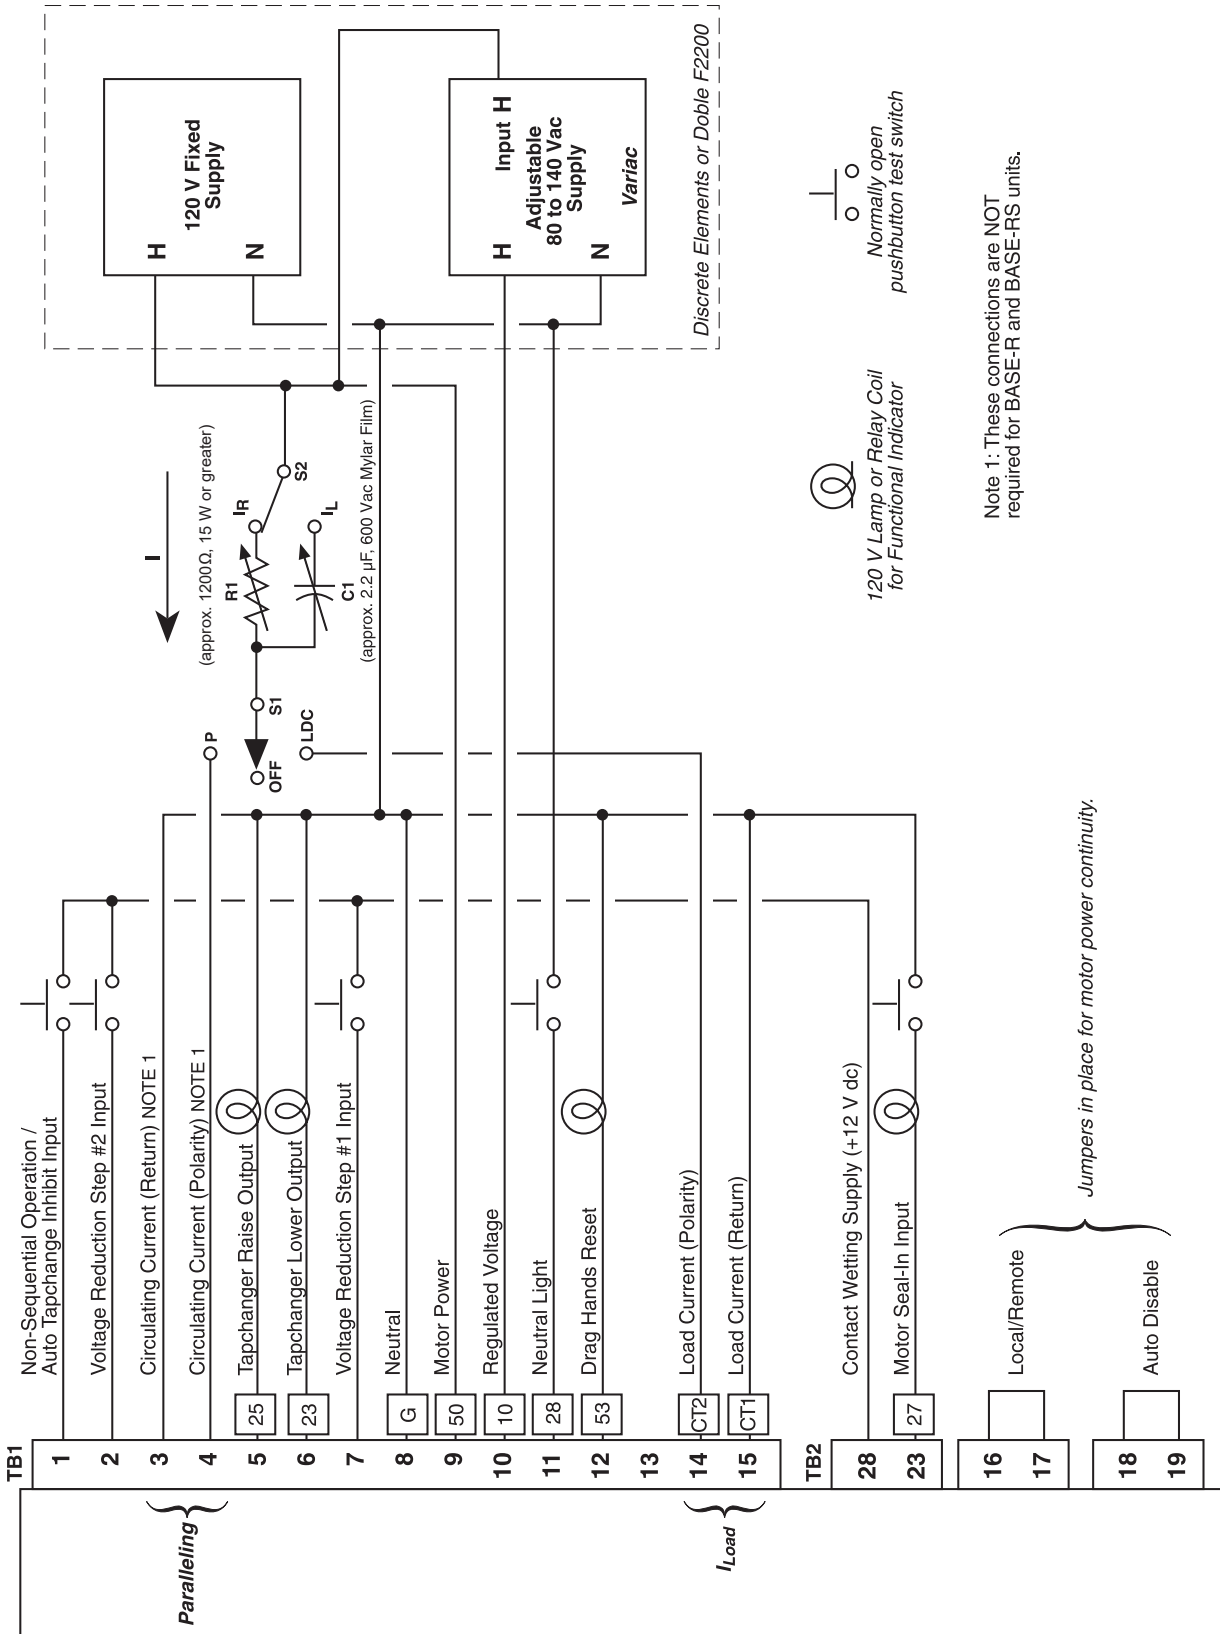

Figure 14 M-2324C Test Procedure External Connection
1. Make electrical setup connections as described in Figure 14, M-2324C Test Procedure External Connections.
2. Set  $S_1$  to LDC and  $S_2$  to  $I_R$  (Figure 14).
2. Set  $S_1$  to LDC and  $S_2$  to  $I_L$  (Figure 14).